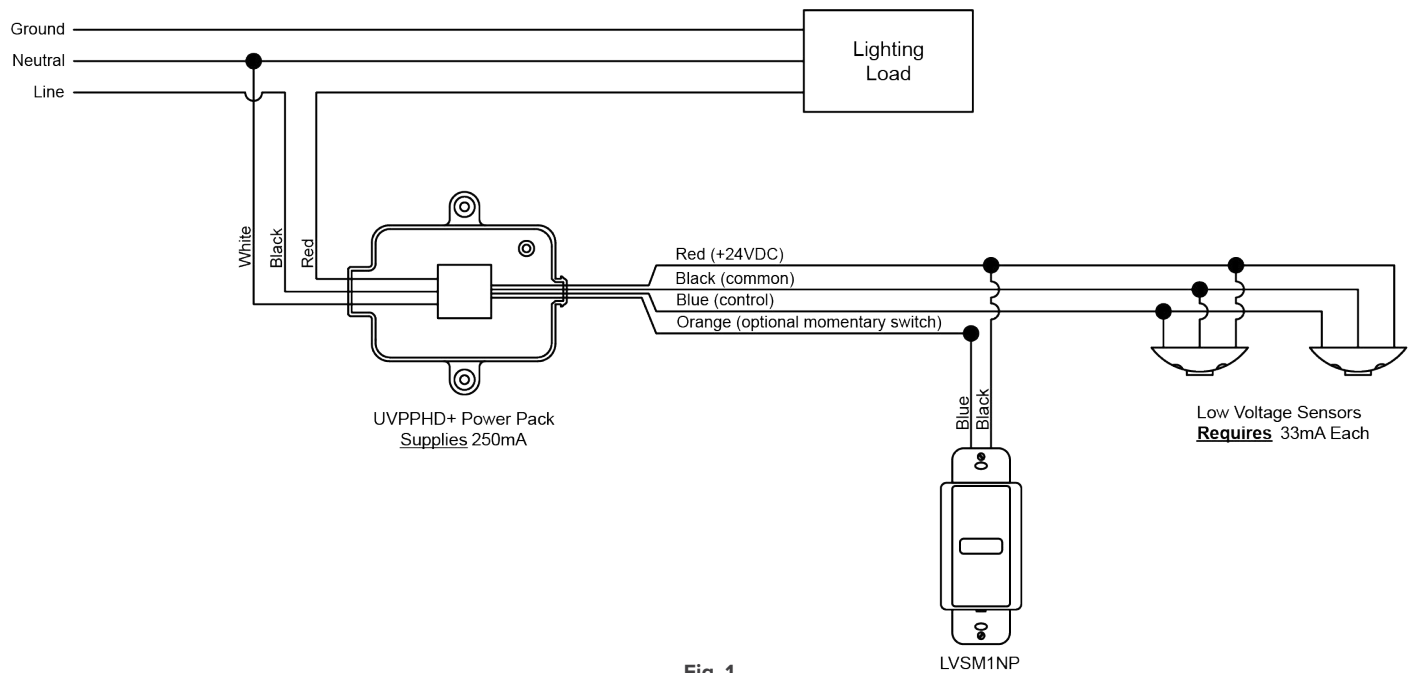

Fig. 1
4. Connect the unit to the circuit as shown in the below wiring diagram (Fig. 1).